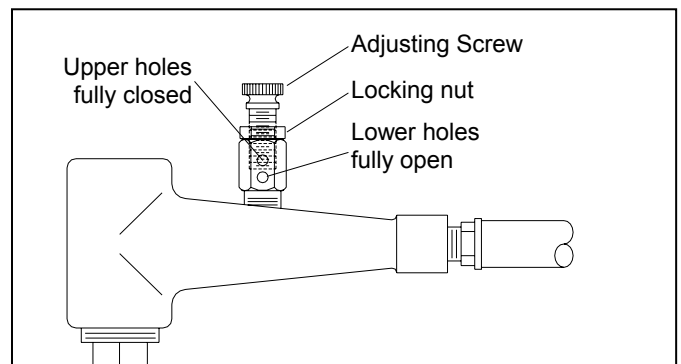

Figure 8
5.3 Media/Air Mixture, Figure 8
5.3.2 If media does not flow smoothly, loosen the locking nut, and adjust the metering screw until the upper holes in the metering stem are closed-off, and the lower holes are fully open. See Figure 8. This adjustment is a starting point.